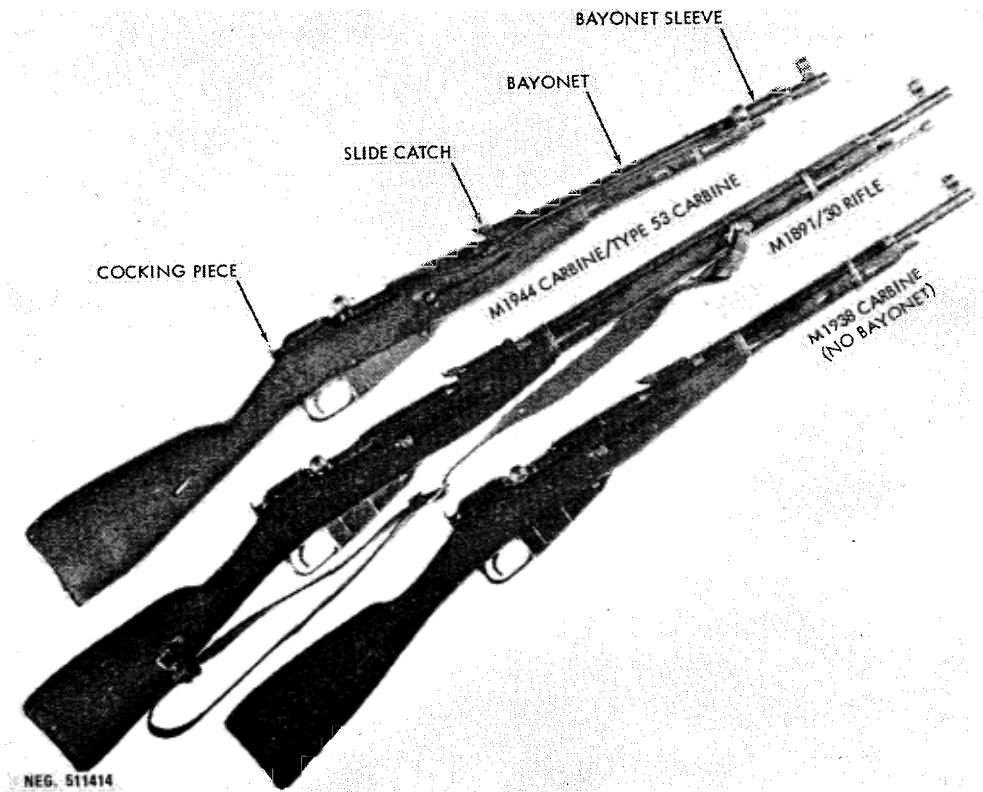

Figure 114. M1891 to M1944 rifles.
a. The Soviet-designed Model 1944 carbine (fig 114)—a rifle by US standards—is the final version of a weapon originally adopted by the Russian Army in 1891. Variations of the original
weapon include rifles, short rifles, carbines, and sniper's rifles. Only the Model 1944 carbine is still in use. Earlier versions, such as the Model 1891/30 rifle and the Model 1938 carbine, may occasionally be encountered (fig 114). Instructions for the Model 1944 carbine also apply to these earlier weapons. These old Russian weapons are simple, rugged, and reliable.